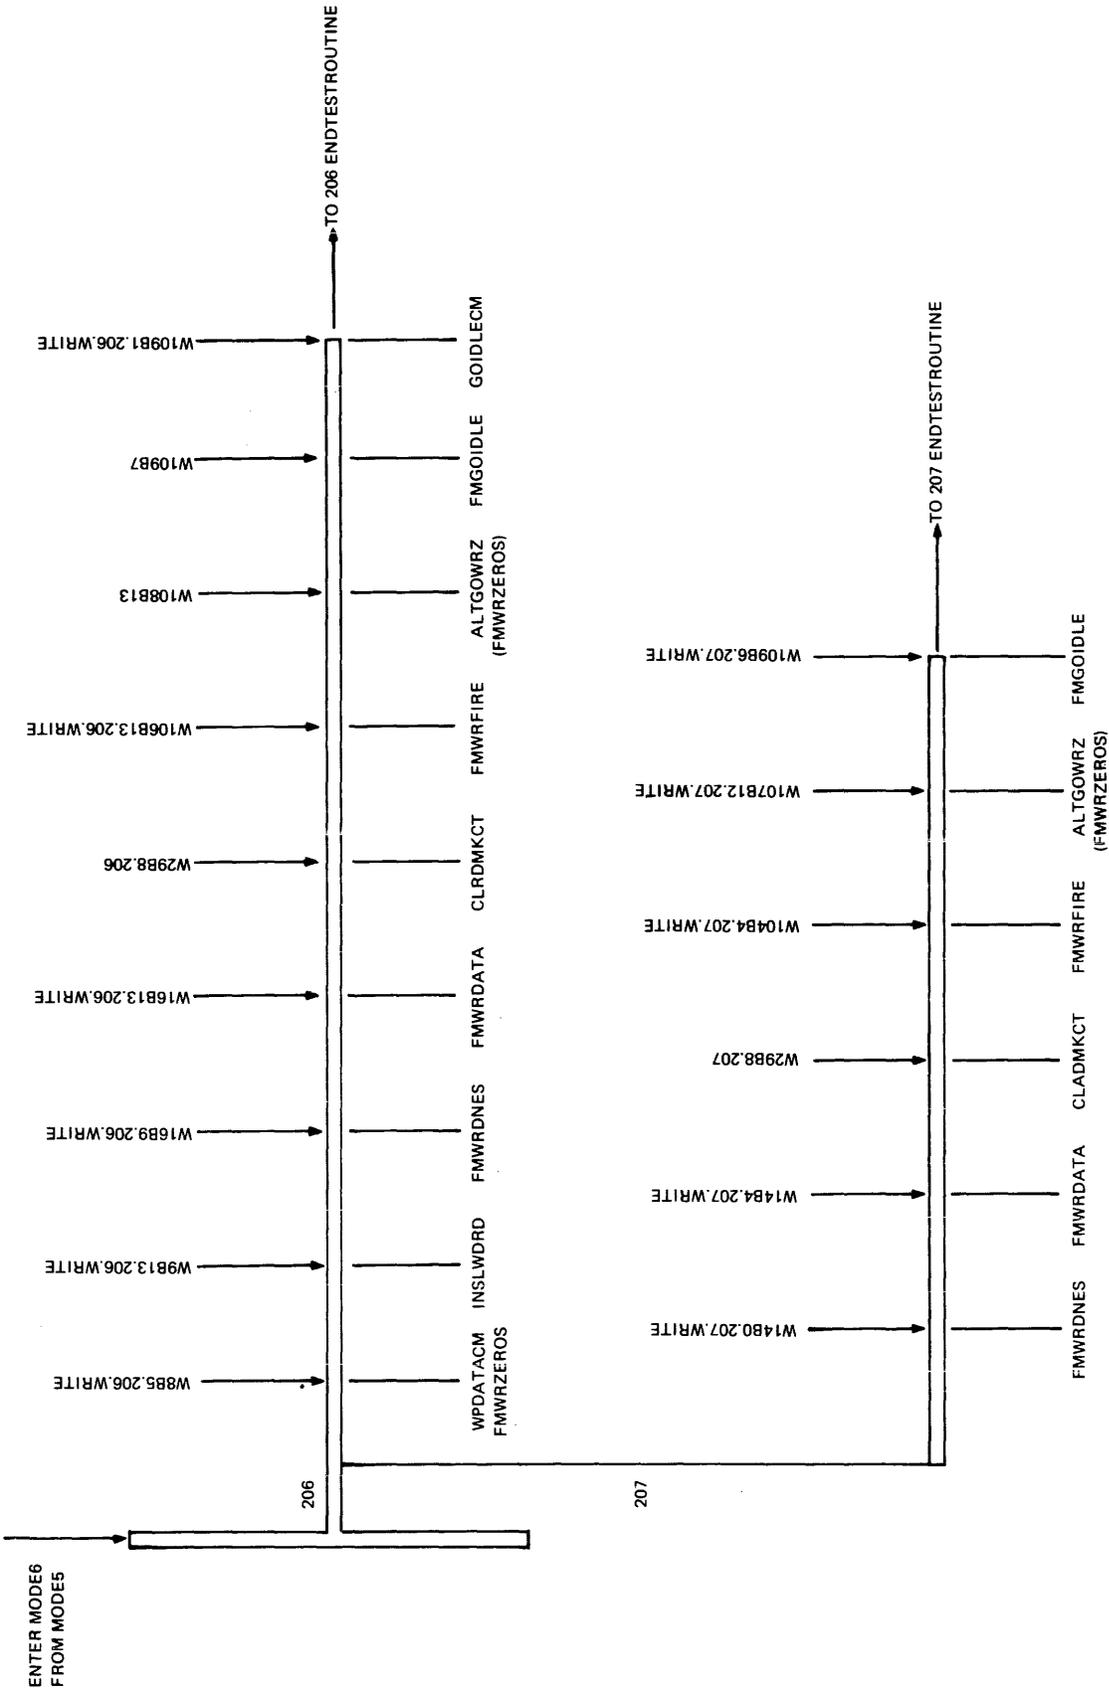

Figure 2-9. Mode 6, Write DATAFR
- 2) 206 WRITE (figure 2-9 upper left hand side).
- 5) 207 Write (figure 2-9 lower left hand side).